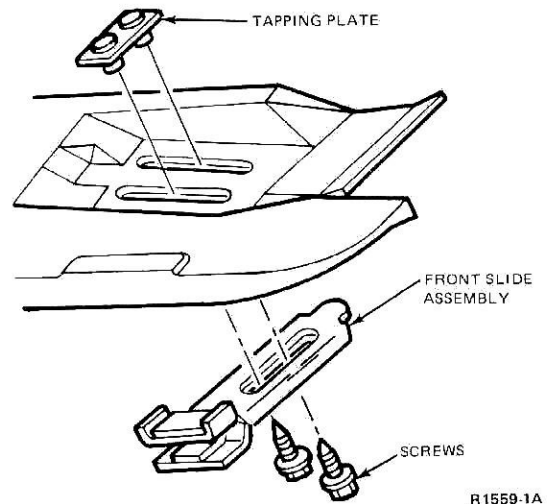

FIG. 2 Front Slide Assembly—Mustang II Only
9. Crank the sliding panel open about five inches, pull the trim panel forward, and engage it to the sliding panel at the seven trim clips (Fig. 2).